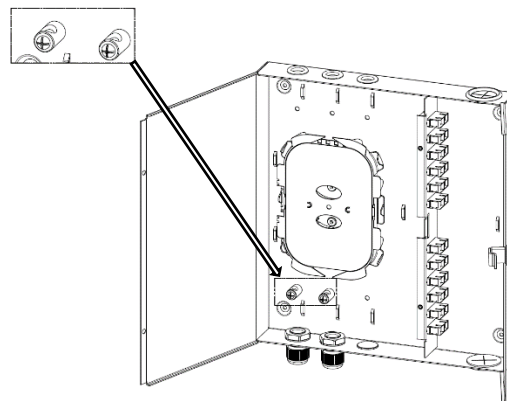

Fig.6
- Fasten Strain relief clamps on the enclosure base where the cables are entering. (Strain relief kits are included in the accessory kit.) (Fig.6)